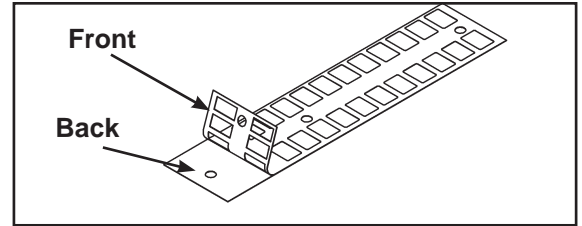

Figure 6
- A. Slowly and carefully peel off back side of decal. **NOTE:** When peeling off back cover, make sure that the decals remain attached to the front sticker. Figure 6.